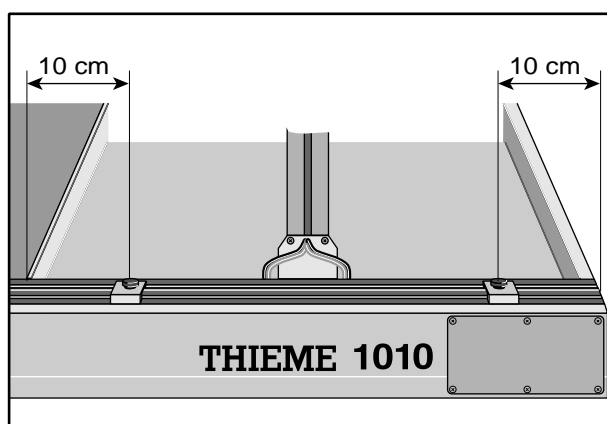

Figure 5-7. Adjusting the squeegee stroke
- \* Using the two proximity switches, make a preliminary adjustment for the squeegee stroke. Ensure a distance of 10 cm to the end of the screen frame on either side (Figure 5-7).